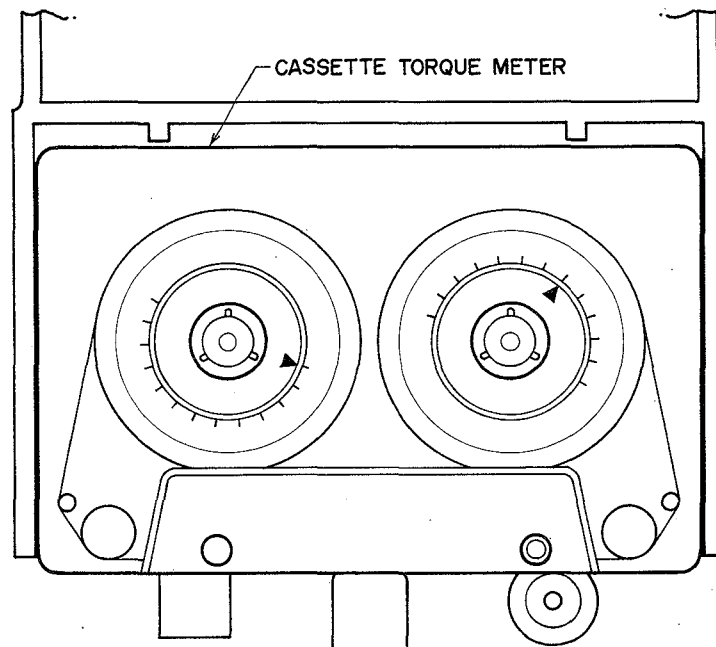

Fig. 22
12. TAKE-UP TORQUE AT VARIOUS MODES AND TORQUE MEASURING METHOD (See Fig. 22)
As shown in Fig. 22, set a cassette torque meter on cassette base, and take a reading of the $\blacktriangle$ indication at each respective mode.